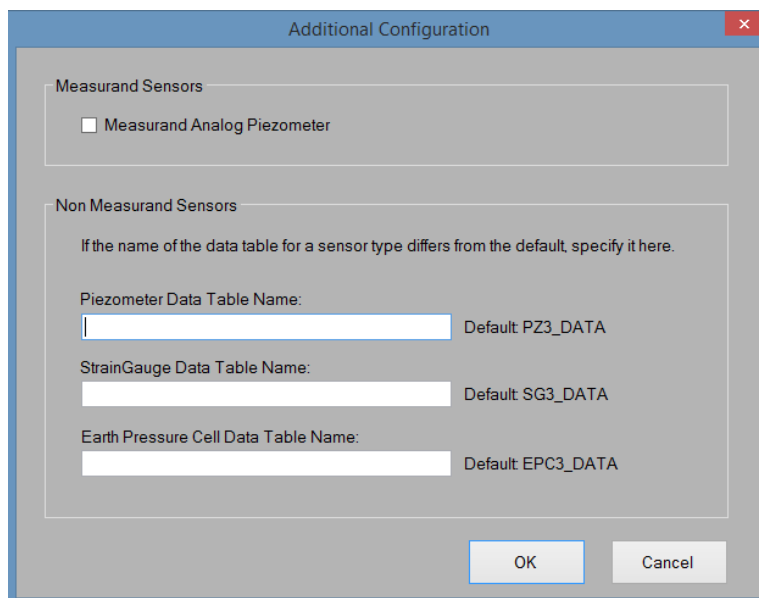

Figure 3.11: The ‘Additional Configuration’ window.
In the next section (Non **Measurand** Sensors), see **Figure 3.11**, shows the dialog for entering “CR*.dat” data table names for non-**Measurand**, non-SAA sensors. Supported types are piezometers (PZ), strain gauges (SG), and earth pressure cells (EPC). The “3” in the default names refers to “third-party” (non-**Measurand**) sensors. These files may have a user defined name but will be in the same folder as the raw data.